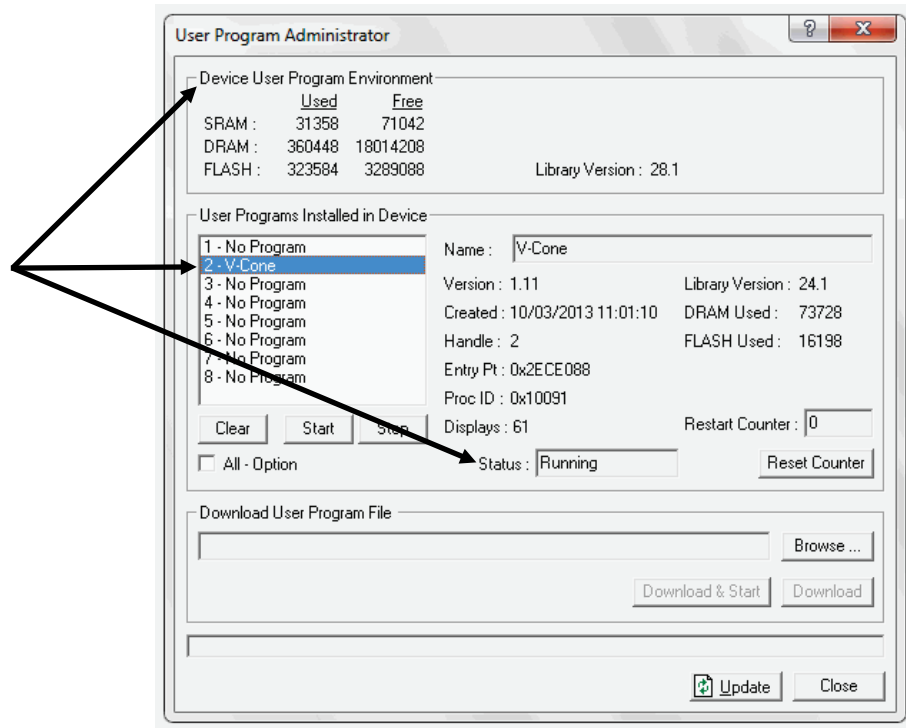

Figure 2-8. User Program Administrator
14. Click **OK**. The User Program Administrator screen displays (see *Figure 2-8*). Note that: